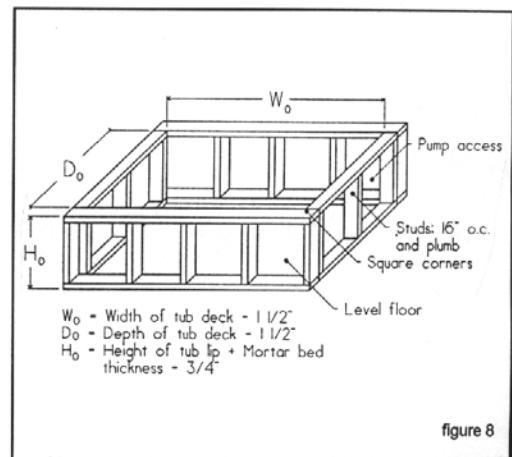

figure 8
DROP-IN OR DECK INSTALLATION FRAMING (figure 8 and figure 9)
1. Kneewalls must be constructed to support the bath deck. Therefore, the deck opening and wall height must be determined. Using figure 8 and the formulas below as a guide, determine the deck opening and kneewall height.